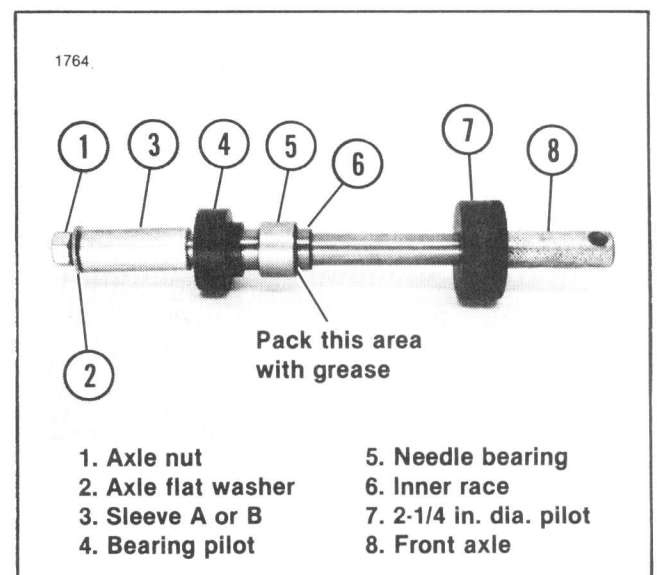

Figure 3-6. Wheel Bearing Installation
Installing Wheel Bearing and Seal (Figures 3-6 and 3-7)
1. Place the 2-1/4 in. diameter pilot from the tool on the axle with the knurled side of the pilot against the head of the axle as shown in Figure 3-6. Insert the axle into the side of the wheel opposite the valve stem with the collar inside the counterbore of the wheel hub.
2. Lightly coat the outside diameter of the inner race (6, Figure 3-6) with the special WHEEL BEARING GREASE, Part No. 99855-80, and insert it into the cavity of the bearing pilot (4) of the tool as shown
in Figure 3-6. Pack the needle bearing with the special grease and install it over the inner race with the lettered side facing the bearing pilot. Place a ridge of grease around the edge of the bearing as shown.
3. See Figure 3-6. Place this assembly on the axle followed by sleeve A, the axle flat washer and the axle nut. Tighten the nut until it bottoms on the axle threads.